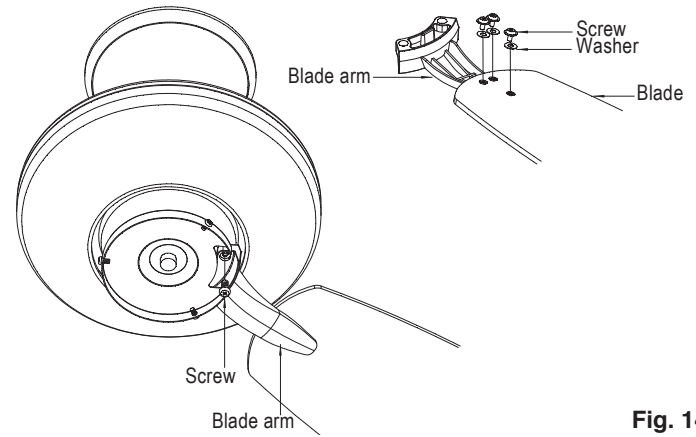

Fig. 14
Step 1. Attach the blade to the blade bracket using the screws and washers as shown in Figure 14. Start screw into bracket. Repeat for the two remaining screws.